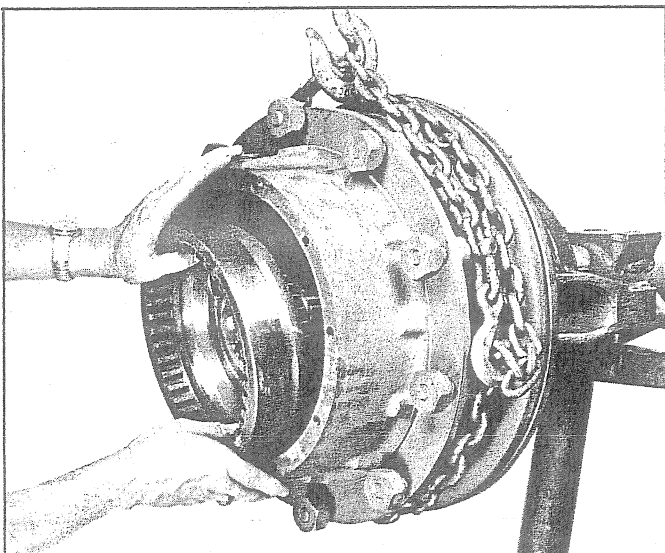

Fig. 100 - Installing Internal Ring Gear
19. With hub and drum assembly still supported by hoist, slide planetary ring gear (with bearing installed) over spindle as shown in Fig. 100.